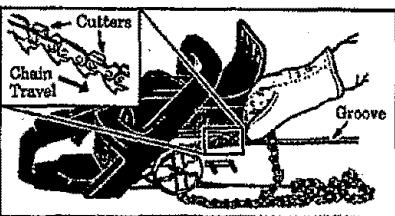

Figure 9
5. Hold the chain with the cutters facing as shown in Figure 9 (inset).
6. Place the chain over and behind the Clutch Drum and onto the Sprocket. Figure 9.
9. Start at the top of the Bar and fit chain Drive Links into the groove around the Guide Bar. Figure 9.